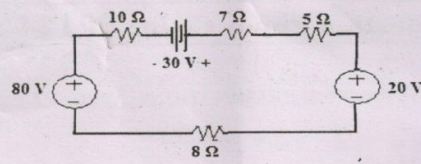

Fig. 1
11. (a) Use resistance and source combinations to determine the current i in the Fig 1. And the power delivered by the 80-V source.